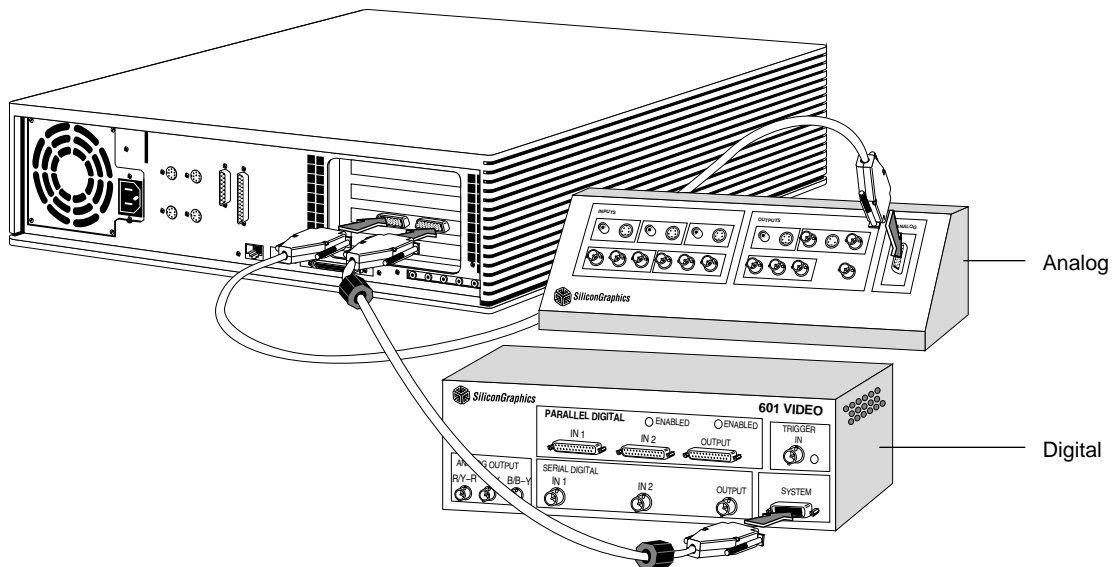

Figure 2-2 Connecting the Galileo 601 Digital Breakout Box to Galileo Video in an Indigo² Workstation
- Figure 2-2** Connecting the Galileo 601 Digital Breakout Box to Galileo Video in an Indigo² Workstation 8
2. Connect the 60-pin digital video cable to the digital port on the back of the Galileo Video board, as shown in Figure 2-2.